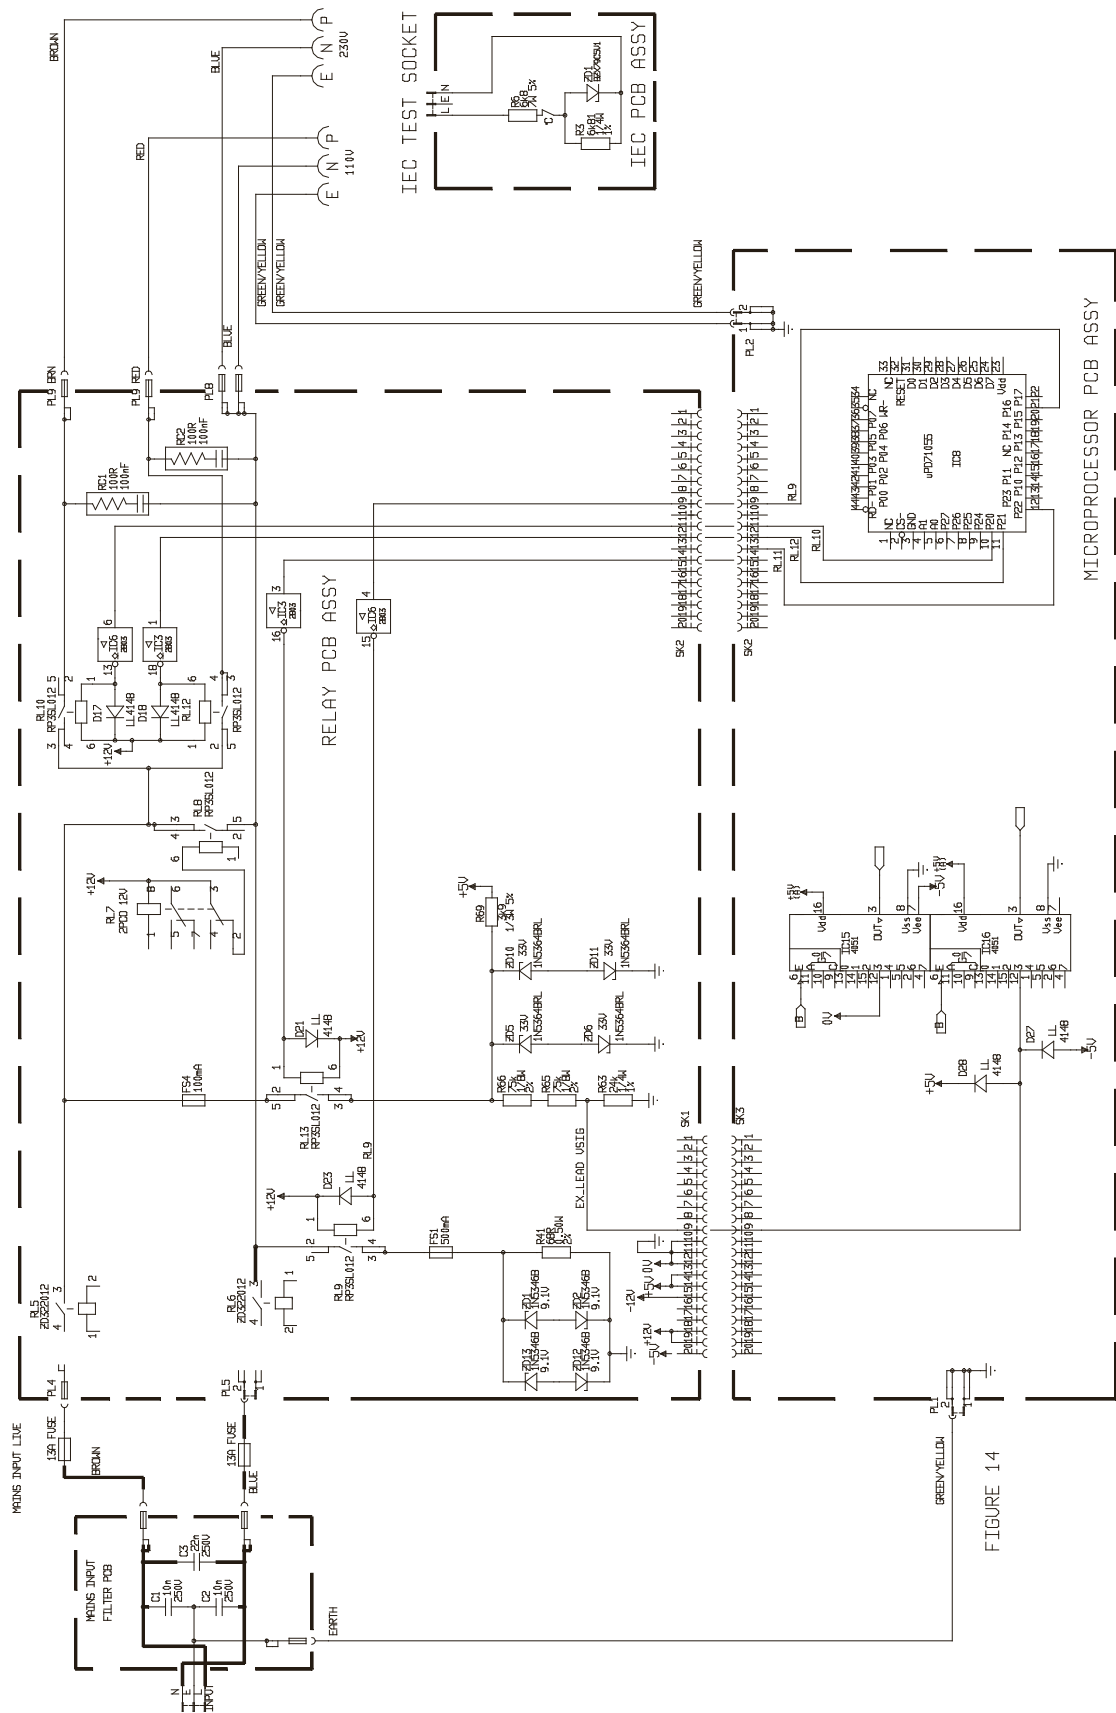

Figure 14
Tests are performed on standard 13 Amp plug to IEC (female) leads (kettle leads etc.) using the configuration shown in *figure 14*. "Normal" 13 Amp extension leads can also be tested but an adaptor lead must be used to allow connection to the PAT4DVF panel connector, this adapter which consists simply of a standard 13 Amp plug to IEC (female) connector, is fitted in series with the extension lead to be tested. Tests can also perform the tests via the 110 Volt / BS4343 Appliance Test Socket.
The above conditions are measured in terms of terminal voltage present between the active pins of the Appliance test socket in use. This voltage is measured using voltage divider network formed from resistors R63, R65 & R6, with the values indicated and the Appliance Test Socket vacant approximately 0.68 Volts will be present at connector SK1 pin 9. This is transferred to the PAT4DVF "Microprocessor PCB. Multiplexer channel (11) being the destination of this signal, which as shown on *figure 14*. is connected to IC16 pin 12. Note this measurement is not actually scaled to volts for PAT4DVF use but is used in BIT form.